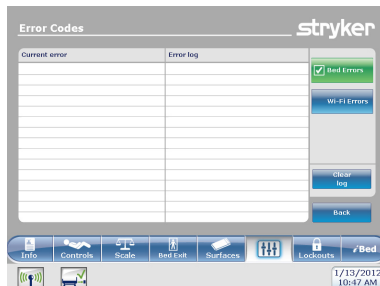

Figure 27b: Error Codes
- b. **ERROR CODES** (Figure 27b)